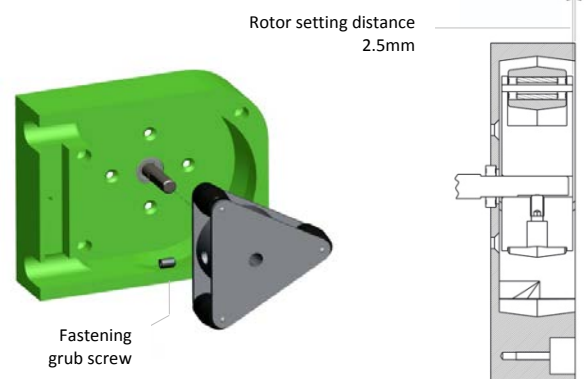

Fig. 12 Replacing the rotor – EV 8000
2. Align peak of roller with peak of tube track or set rotor distance back from front of pump housing as indicated (*Refer Figure 12*)